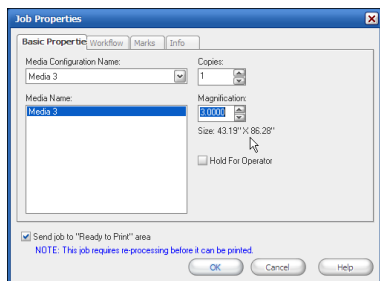

Figure 6—Job Properties Dialog
2. Click **Change** in the Job Information area. This opens the Job Properties dialog (see Figure 6).
RIP-Queue displays the number of copies in the Basic Properties tab of the Job Information dialog (see Figure 6) and in the Copies column of the Jobs Ready to Print area of your screen.